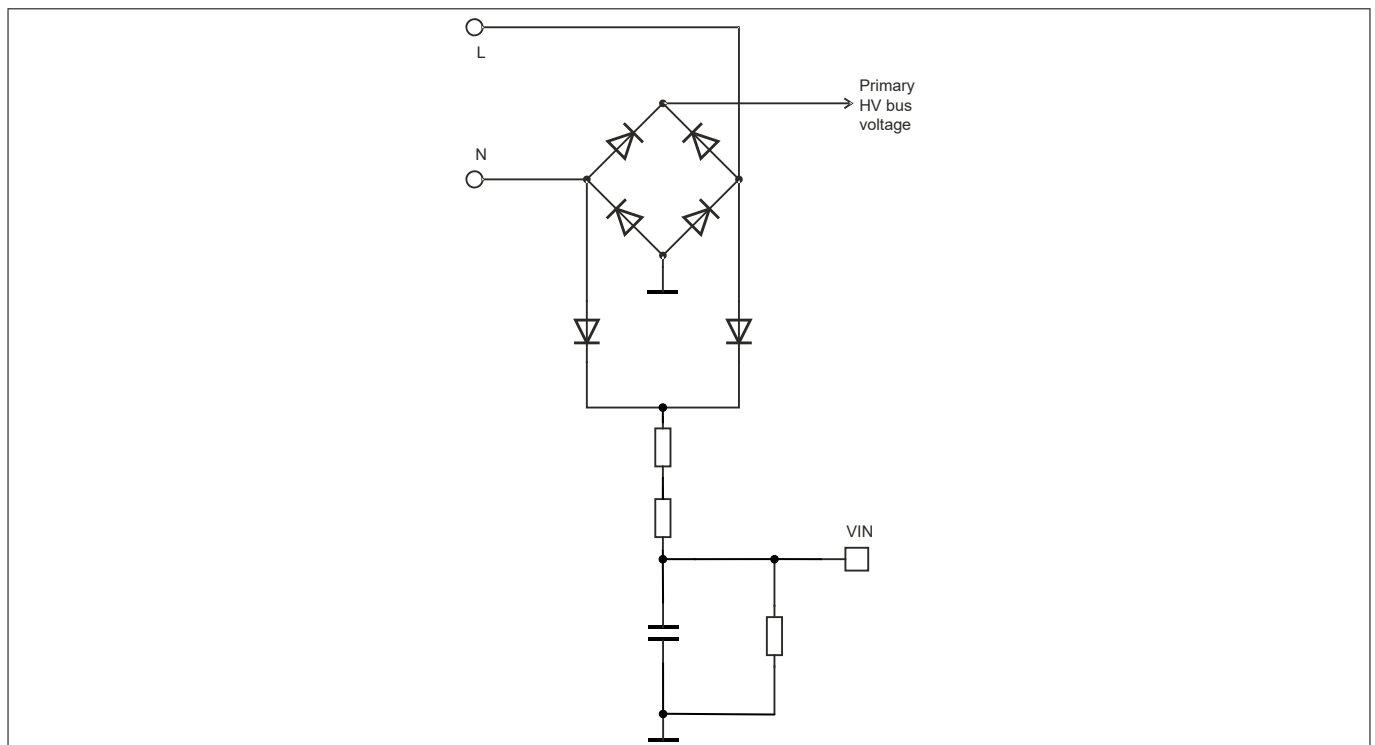
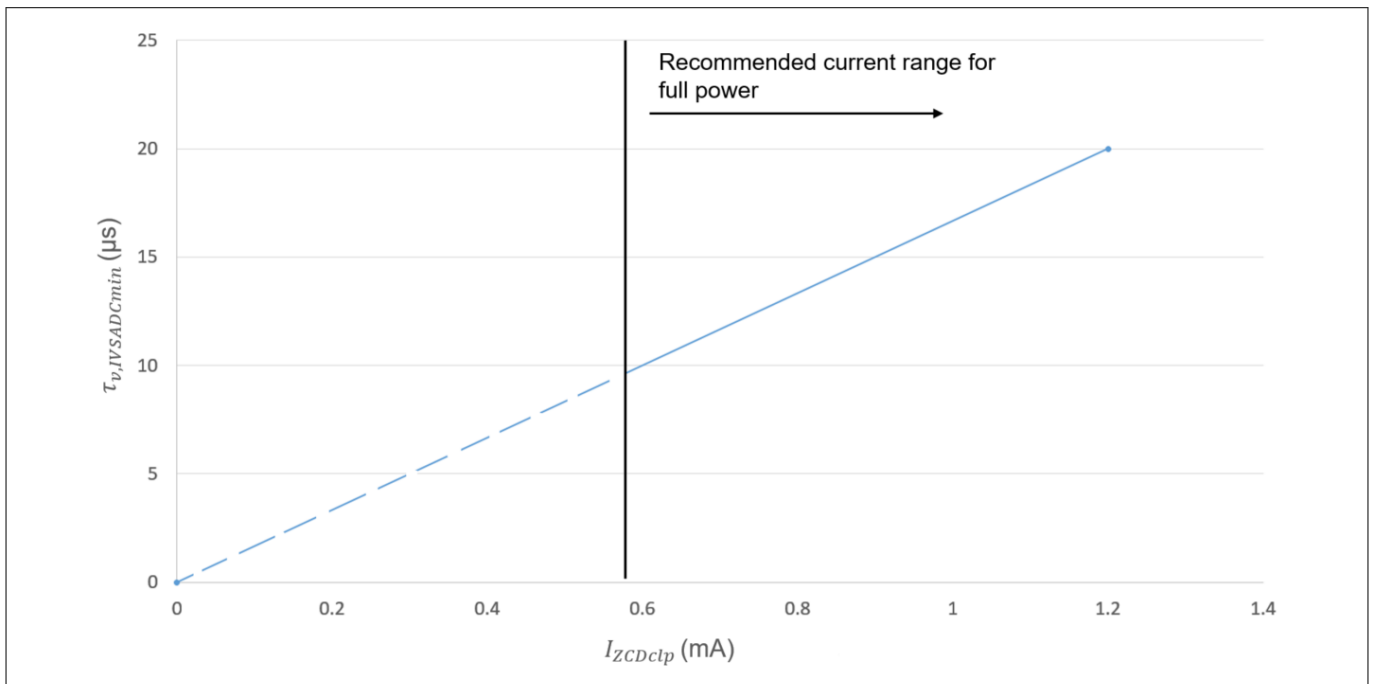
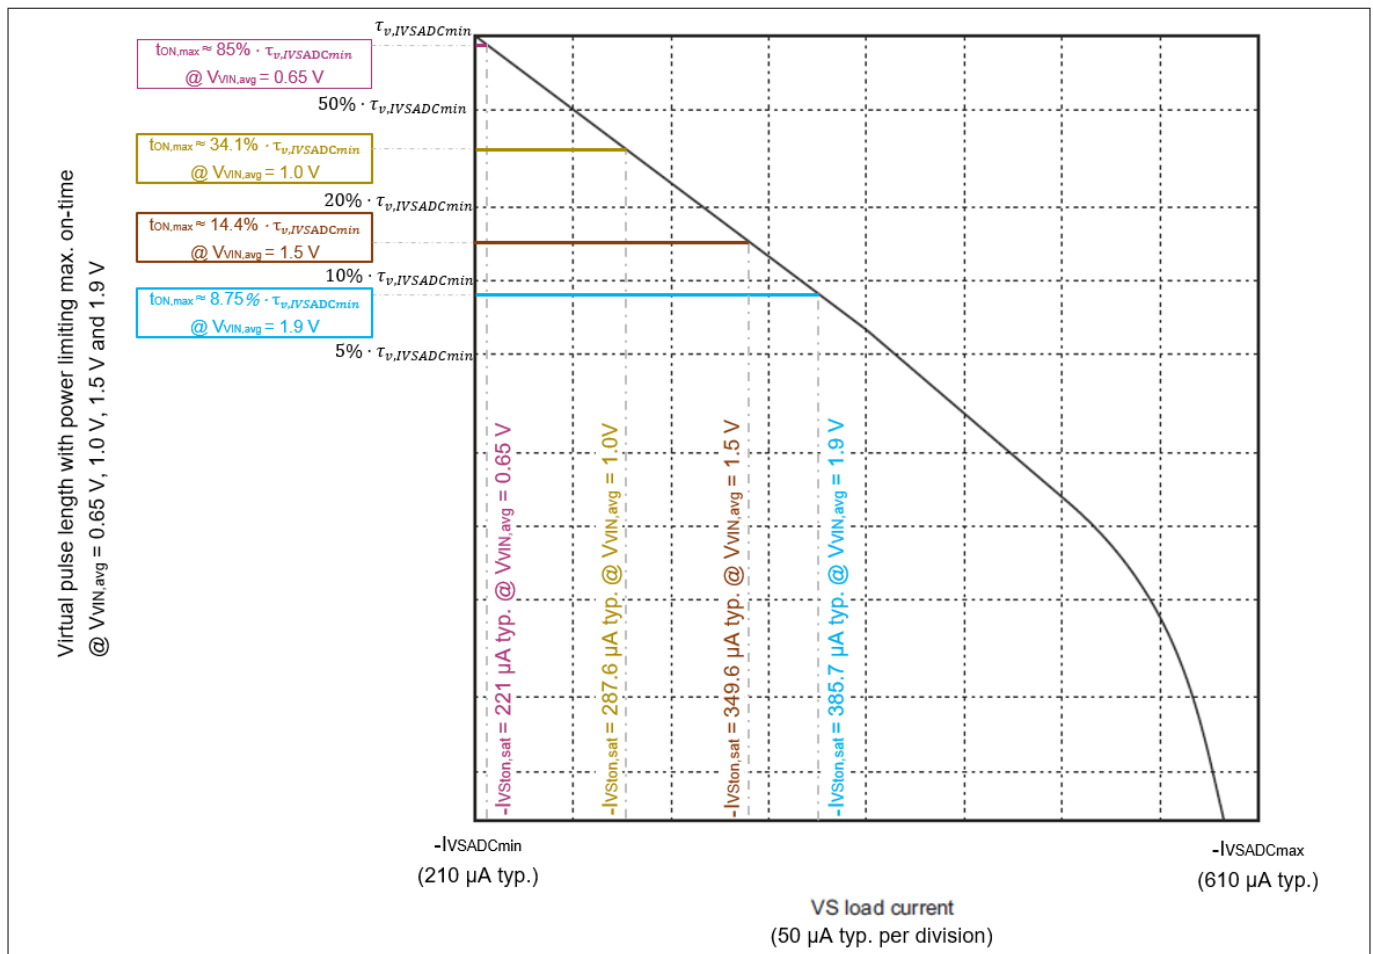

Figure 6 V_{IN} pin circuit
Figure 14 Virtual pulse length at $I_{VSADCmin}$, $\tau_{v,IVSADCmin}$ versus ZCD peak to peak settled clamping current, I_{ZCDclp}
Figure 15 Virtual pulse length mapping with power limiting maximum on-time effect
1. Based on $I_{ZCDclp} = 1.2 \text{ mA}$, obtain $\tau_{v,IVSADCmin} = 20 \mu\text{s}$ from Figure 14.
For $t_{ON,max}$ estimation, it is important to note that $\tau_{v,IVSADCmin}$ changes with different $V_{VIN,avg}$ level, when the input voltage detection circuit in Figure 6 is applied. This is because $\tau_{v,IVSADCmin}$ is scaled depending on I_{ZCDclp} in Figure 14, while I_{ZCDclp} is dependent on the input voltage, as explained in ZCD pin signal sensing.
Figure 15 shows the virtual pulse length with the power limiting maximum on-time effect, when $V_{VIN,avg}$ is 0.65 V, 1.0 V, 1.5 V and 1.9 V, respectively.
When $V_{VIN,avg}$ is at the brownin level ($V_{BI} = 0.65\text{ V typ.}$), the power limitation is enabled with $t_{ON,max} = 85\%$ of $\tau_{v,IVSADCmin}$, as shown in Figure 15. For example, if the desired $t_{ON,max}$ at brownin level is $17\text{ }\mu\text{s typ.}$, it is necessary to have $\tau_{v,IVSADCmin} = 17\text{ }\mu\text{s} / 85\% = 20\text{ }\mu\text{s}$. And, according to Figure 14, $\tau_{v,IVSADCmin} = 20\text{ }\mu\text{s}$ is obtained when $I_{ZCDclp} = 1.2\text{ mA}$ is applied. As a result, to achieve $t_{ON,max} = 17\text{ }\mu\text{s typ.}$ at brownin level, R_{ZCD} should be dimensioned to produce $I_{ZCDclp} = 1.2\text{ mA typ.}$ at brownin level.